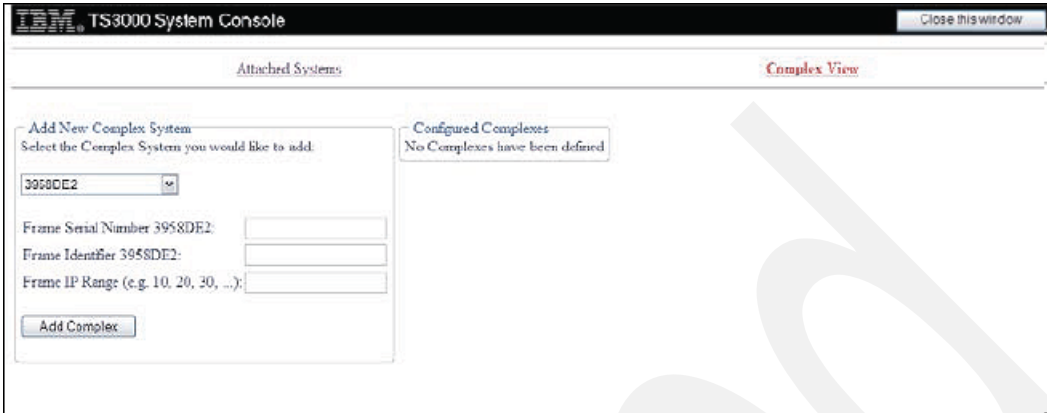
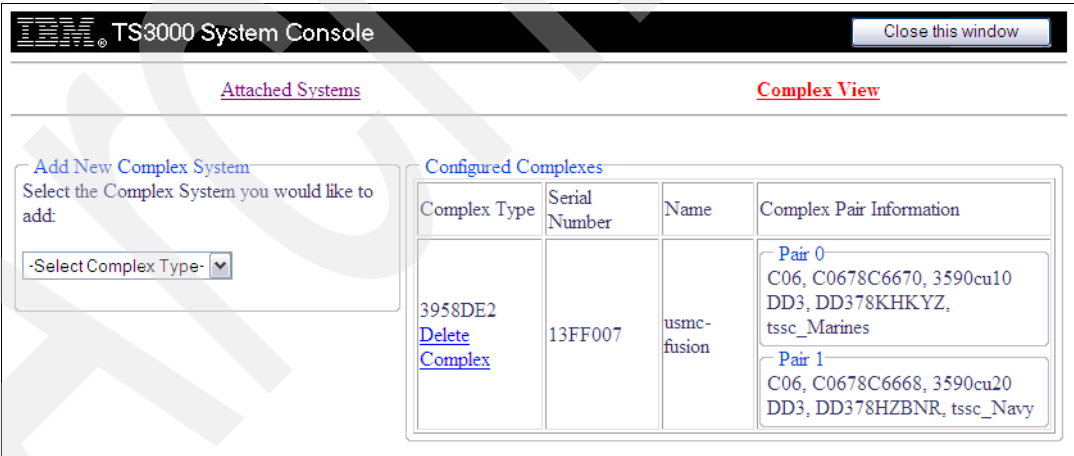

Figure 6-12 TSSC Complex view
Figure 6-13 TSSC Add Complex
in Figure 6-13 on the right side If the Complex has not been created yet, you will receive a panel like the one in Figure 6-12 with nothing listed under the Complex View title.
7. Enter the Frame Serial Number, Frame Identifier (for the Frame Identifier enter the Composite Library Sequence Number) and Frame IP Range (for example, 10, 20, 30) (frame location number). Press **Add Complex**. Figure 6-13 shows *all* the 3958DE2 options displayed. Each attached system within the frame number range is added to the frame cluster.